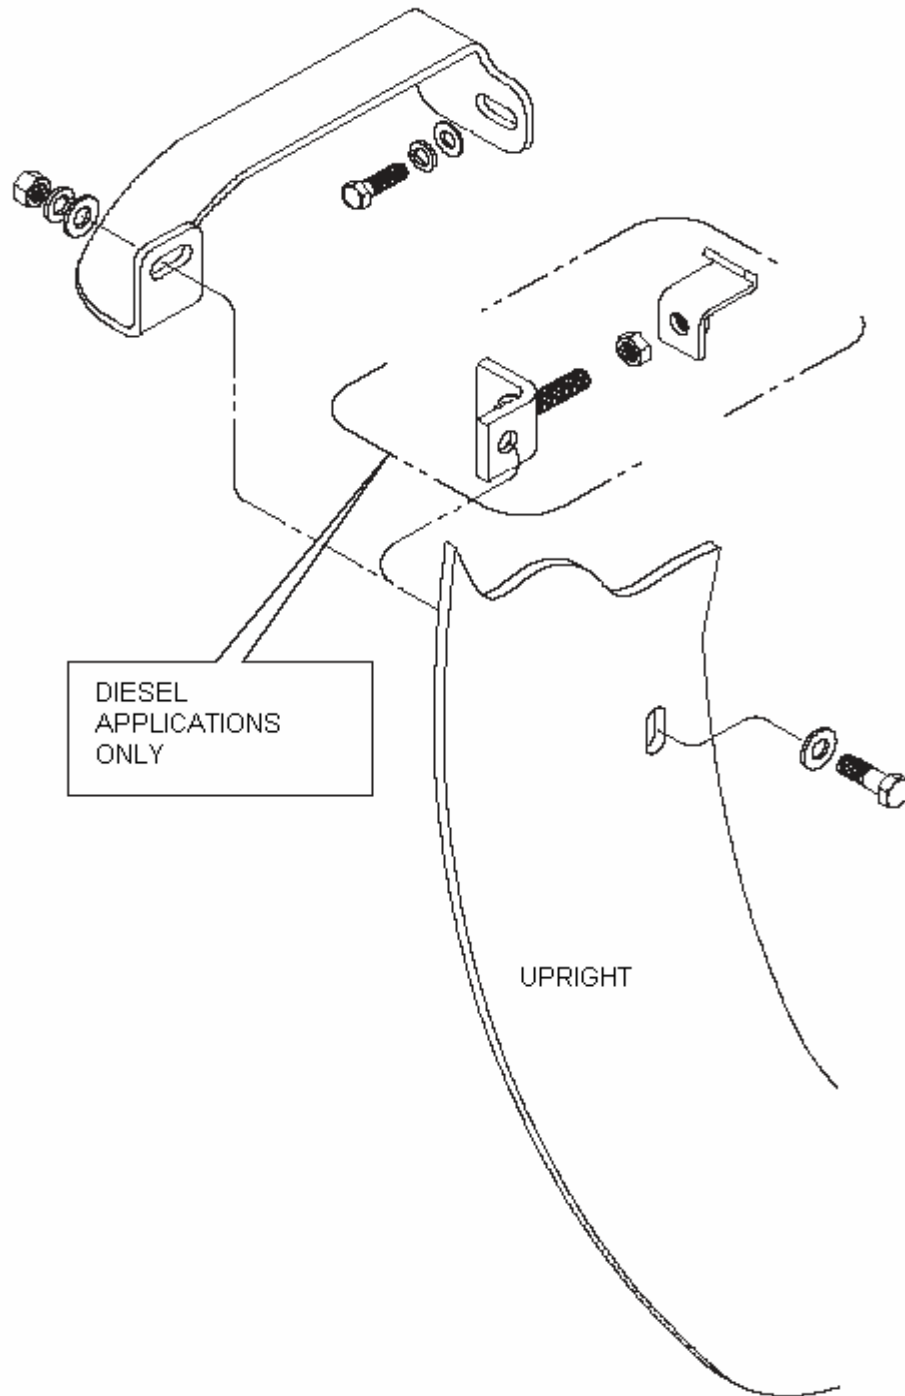

Figure 3
10. Secure top of Grille Guard assembly as shown (see Figure 3). Start the mount clamp bolt on both sides and then draw unit in towards vehicle until it feels secure. Tighten nut against top clamp to secure.